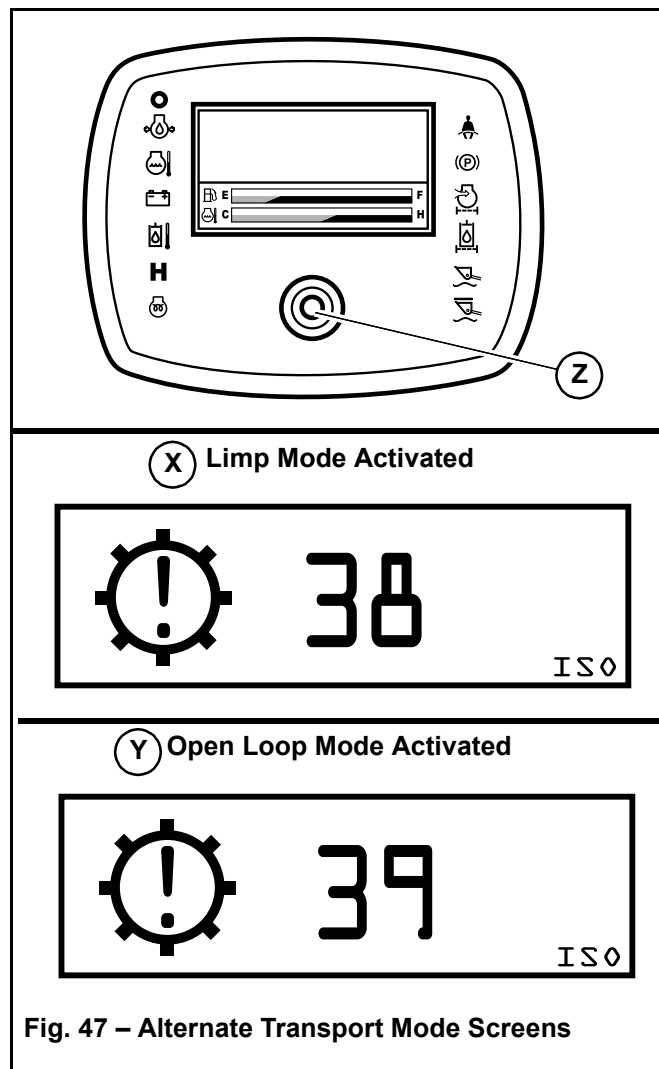

Fig. 47 – Alternate Transport Mode Screens
- Limp mode (X, Fig. 47) – results from drive error codes 7-10.
- Open loop mode (Y) – results from drive error codes 3-6.